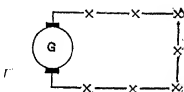

FIG. 32. Arc lamps in series across terminals of generator.
**Prob. 5-2.** There are seven arc lamps in series, Fig. 32, each requiring 6.6 amperes. If each has a resistance of 15 ohms when burning, how many volts must the generator supply to the line? Neglect the resistance of the line wires.